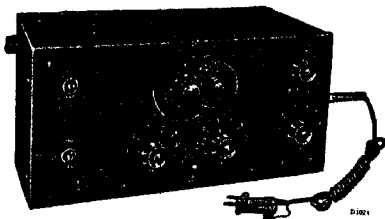

Fig. 3
1. Een Service-oscillator, (4028C of G.M. 2880 fig. 3).